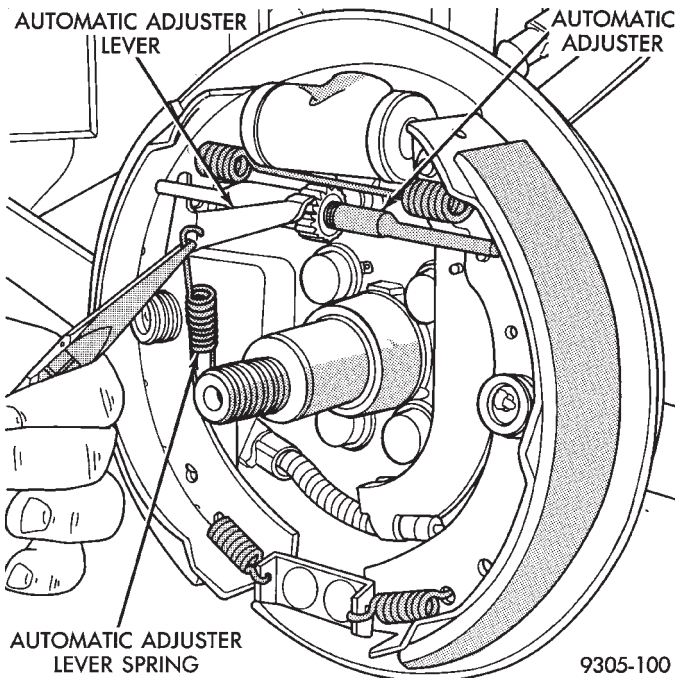

Fig. 67 Remove or Install Automatic Adjuster Lever Spring
- (3) Remove automatic adjuster spring from automatic adjuster lever (Fig. 67).
- (8) Install automatic adjuster lever spring, on leading brake shoe assembly and automatic adjuster lever (Fig. 67).
- (9) Install rear hub and bearing assembly on rear spindle. Install hub and bearing assembly washer and retaining nut. Tighten the hub and bearing assembly retaining nut to a torque of 168 N·m (124